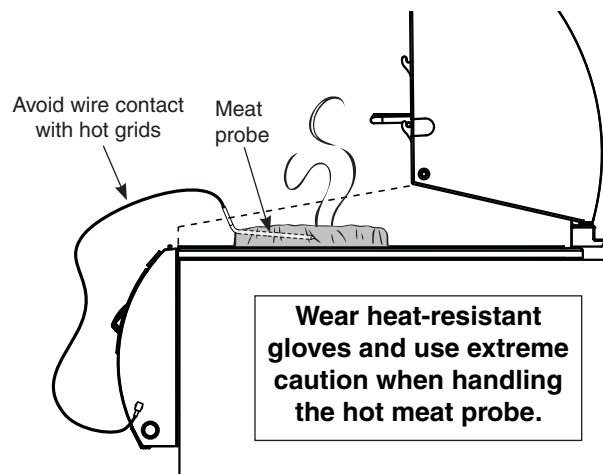

Fig. 30-3 Meat probe
- Meat probe wire is rated up to 800°F and cannot withstand continuous contact with flame. Avoid wire contact with hot cooking grids. See Fig. 30-3. If wire shows visible damage, meat probe needs to be replaced.